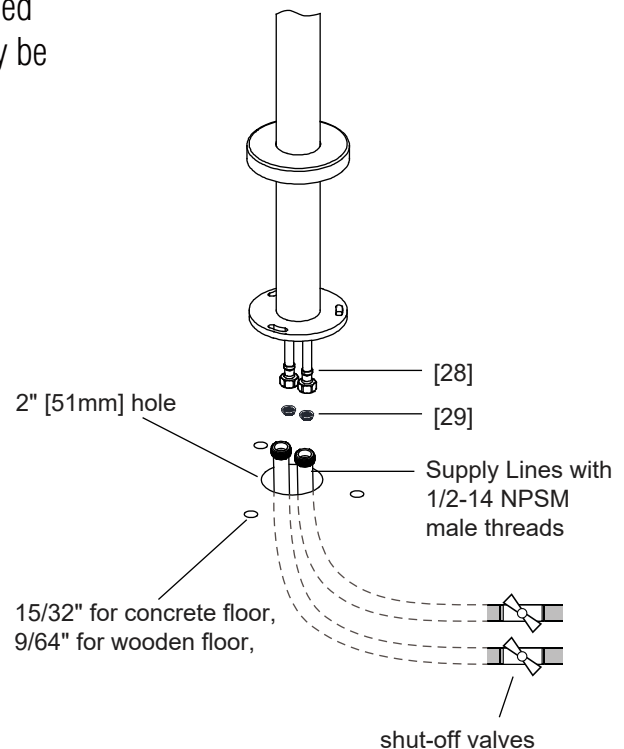

Fig 3.2
- Drill a 2" [51mm] hole into the floor, see Fig. 3.2.
- Connect the **Hoses [28]** to the water supply lines (which should be protruding from the ground and have matching male threading). (Fig 3.2)